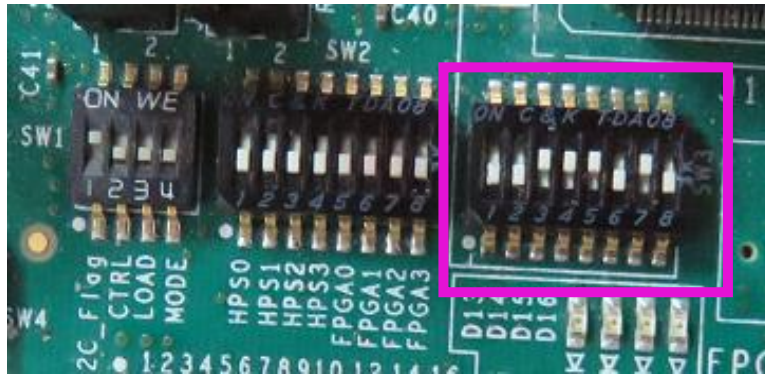

Figure 4-12 SW3 setting
- After programming successfully, power off the A10SoC board and set the switches of the SW3 as shown in **Figure 4-12**.